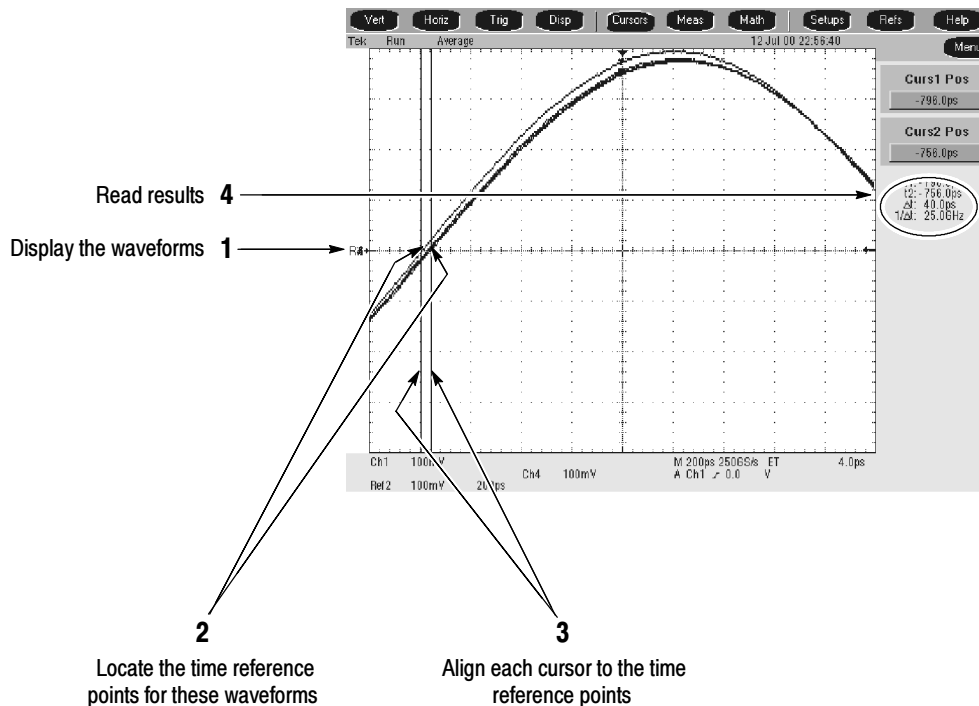

Figure 4-10: Measurement of channel delay
- Display the live waveform. Move the power splitter from **CH 3** to **CH 4**, so that CH 1 and CH 4 are driven. Press the Vertical **CH 4** button to display. See Figure 4-10 on page 4-32.
- Display the reference waveforms. To do this, touch the Ref 3 Display **Off** button to toggle it to On and display the reference. Select the **Ref 2** tab and touch the Display **Off** button to toggle it to On. You may notice their overlapping waveform handle icons. See Figure 4-10 on page 4-32.
- Locate the time reference points for these waveforms. Do this by first identifying the point where the rising edge of the left-most waveform crosses the center horizontal graticule line. Next, note the corresponding *time reference point* for the right-most waveform. See Figure 4-10 on page 4-32.